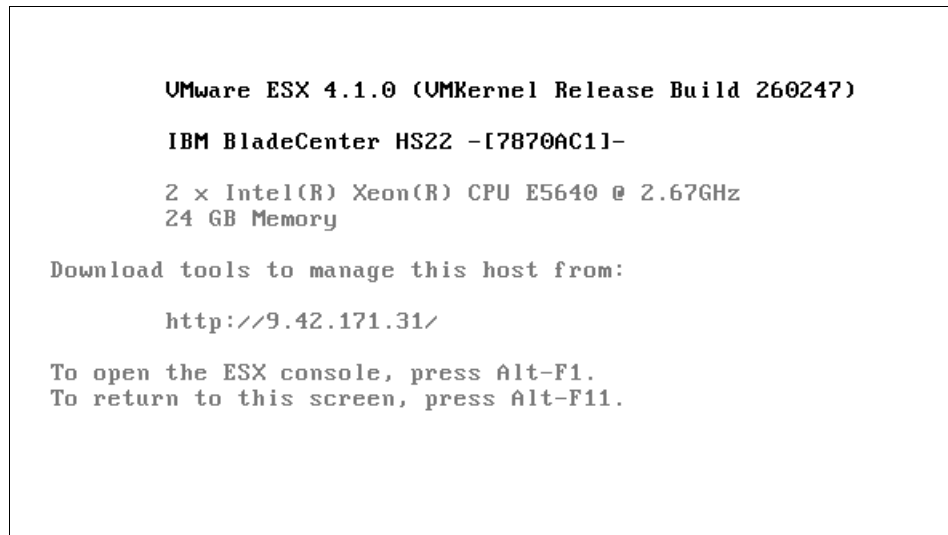

Figure 22-36 ESX Server Logon panel
23. After the VMware ESX Server startup is complete, the logon panel for VMware ESX Server 4.1 server (Figure 22-36) is displayed.